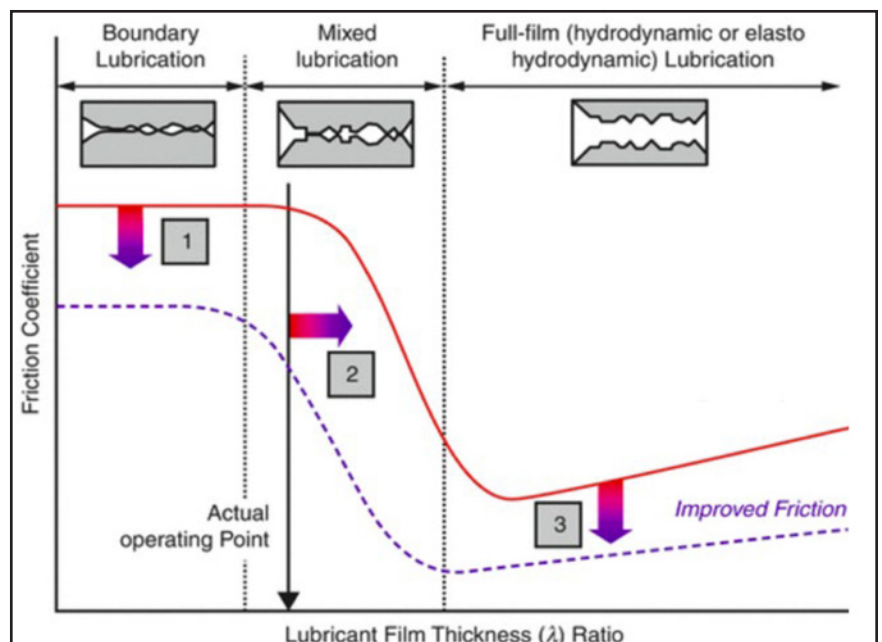

Figure 2 Stribeck curve. (Source: Wang Q.J., Chung YW, "Encyclopedia of Tribology." (2013) Springer, Boston, MA.)
**Stribeck curve.** The Stribeck curve, originally developed for journal bearings (Fig. 2), expresses how the coefficient of friction varies over the entire range of lubrication.